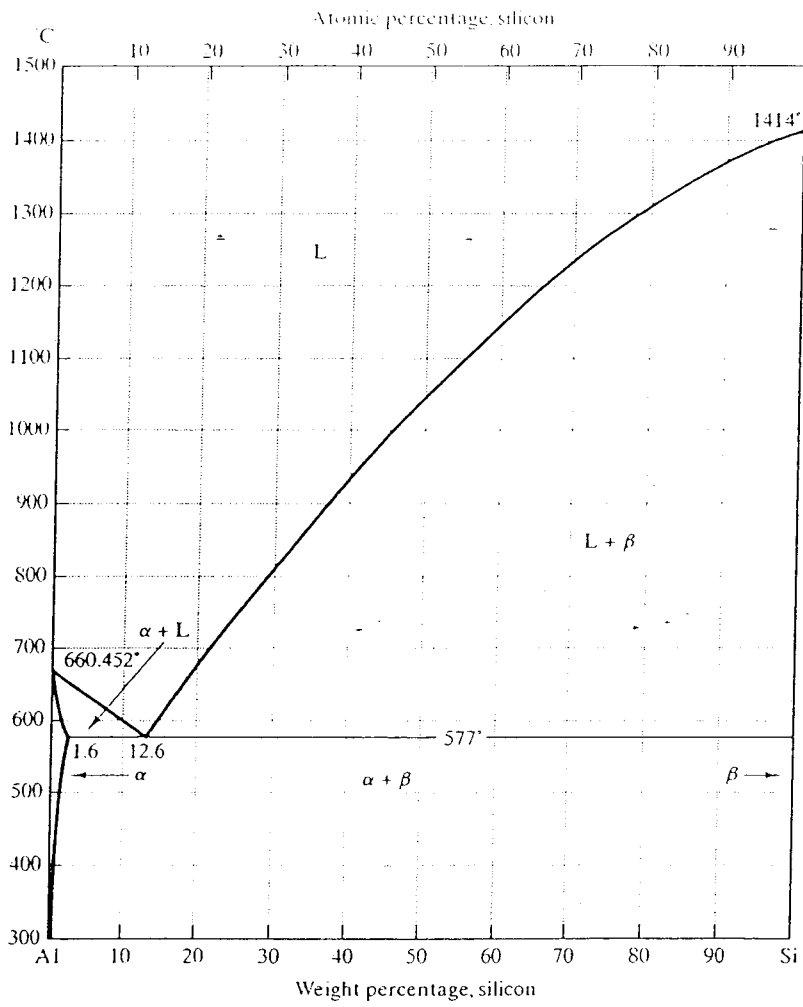

Figure 4
- [b] The solid solubility of silicon in aluminium is 1.25 at % 550°C and 0.46 at 450°C. What solubility would you expect at 200°C. The relevant Si-Al phase diagram is in Figure 4.